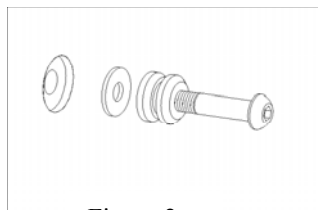

Figure 2
1. If mounting knobs are installed on plasma from the factory, remove these and install enclosed mounting buttons with one washer underneath each button utilizing the enclosed M8 screws, ensuring not to over tighten (See Figures 2 & 3).